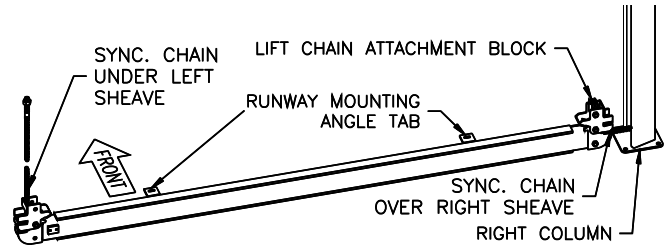

Fig 8 – Crossbeam Orientation
- 13) Position crossbeams (front and rear crossbeams are identical) with the lift chain attachment block on the right and the runway mounting angle tabs extending forward, **Fig 8**.